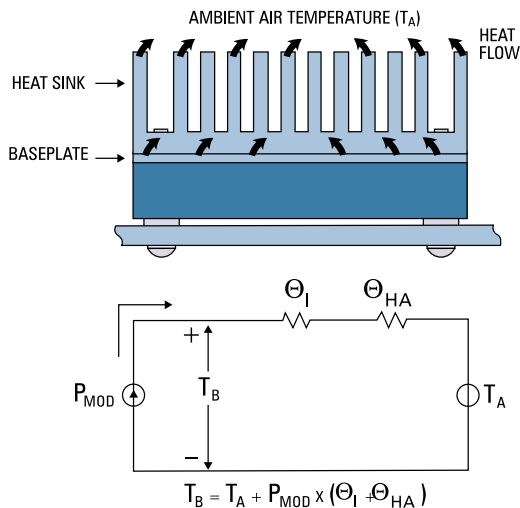

Figure 10a: Thermal model for convection cooled systems.
Convection cooling is by far the most popular form of cooling used. In a convection cooled system the heat energy is transferred from the module to a nearby body of air either by direct contact or via a heatsink attached to the module baseplate. The thermal model for convection cooling is shown in Figure 10a. The baseplate temperature depends on the internal power dissipation, the total thermal resistance from the baseplate to the ambient air, and the ambient air temperature. The interface resistance can be minimized as discussed previously. The heatsink-to-air resistance is dependent on a variety of factors including heatsink material, geometry, and surface finish; as well as air temperature, air density, and air flow rate. Fortunately, thermal resistance data is available for a very wide range of standard heatsinks (from RO, Aavid, Thermaloy, and others) for use in convection cooled applications. Convection cooling is usually classified into two types: natural convection, and forced air convection.
3. Determine the required thermal resistance from the heatsink to the ambient air. Referencing Figure 10a, we can derive the following formula for heatsink-to-ambient thermal resistance: